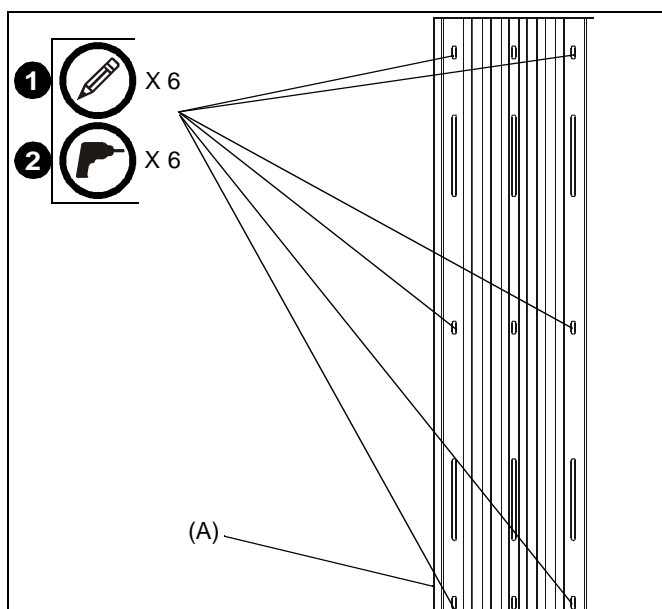

Figure 17
1. Using wall track accessory (A) as a template, mark location of six mounting holes on wall making sure it will be level. (See Figure 17)